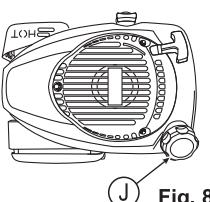

Fig. 8
1. Open the fuel tank cap (J) and refuel gasoline. Immediately wipe off with a rag if gasoline is spilt. (See Fig. 8)
2. Firmly close the fuel tank cap (J) after refueling.